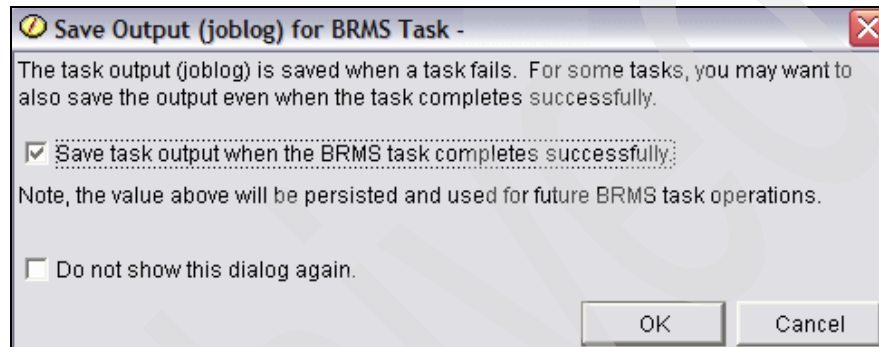

Figure 7-56 BRMS running the backup, save joblog
4. When this is done, specify whether you want the joblog or not. The first time you run the job, it is useful to view the joblog regardless of the end result, just to understand what the job did. Click **OK**, as shown in Figure 7-56.